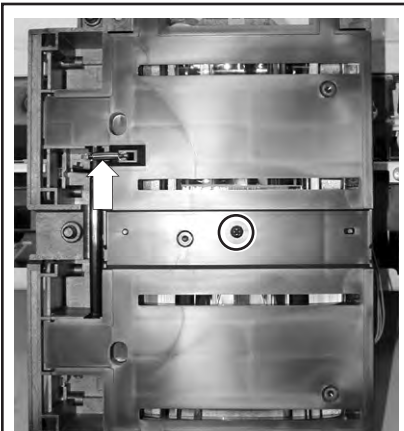

Figure 14. Removing the cover of the laser/scanner assembly. The arrow indicates the shutter spring and the circle, the cover screw.
1. Turn the laser/scanner assembly over and remove the shutter spring, shown by an arrow in Figure 14.
2. Remove one 3-mm, black self-tapping screw, circled in Figure 14, from the laser/scanner cover.